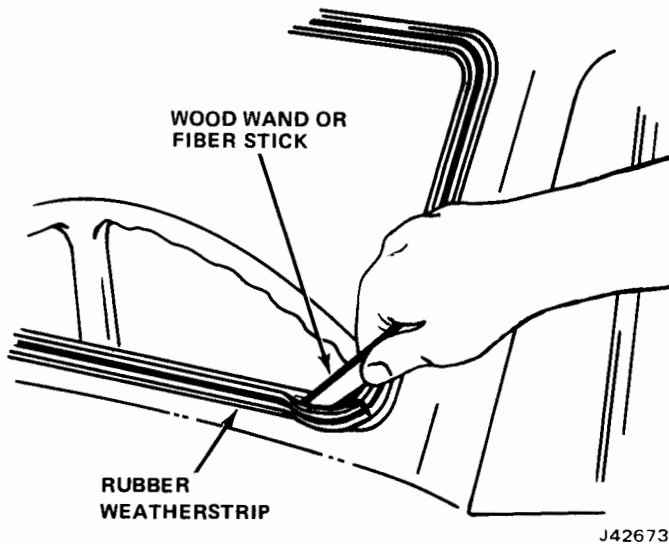

Fig. 17-4 Unlock Rubber Weatherstrip
- (6) On units with or without mouldings, unlock the rubber weatherstrip starting at the bottom with a fiber stick or wand (fig. 17-4).
- (7) Remove inside rear view mirror from bracket.
- (8) Use fiber stick to break seal between windshield glass and weatherstrip.
- (9) Use two men to remove windshield from weatherstrip, one man lifting as windshield comes free.
- (10) Remove weatherstrip from opening.
- (11) Inspect weatherstrip and clean off sealer from glass cavity and flange cavity.